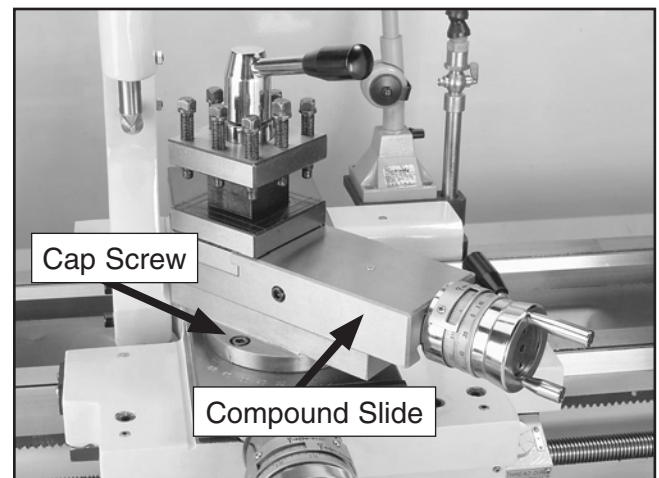

Figure 44. Compound slide set at an angle.
1. Loosen the two cap screws, one on each side of the compound slide (see **Figure 44**).